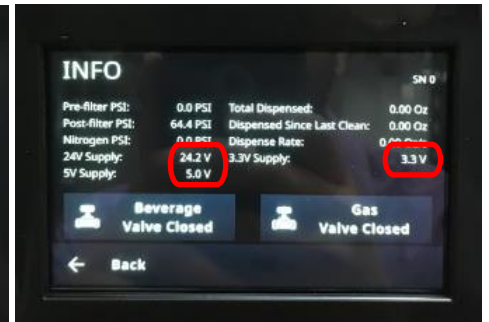

Figure 12: Voltage readings Circled.
- b. Verify reading on touchscreen of “24V, 5V, 3.3V” Supply is within tolerances on. See **Figure 12 and Figure 13**. If all voltages are within tolerance, restart the Fridge (Unplug and plug back in) and check the voltage again. If issue persists, update the software. Refer to **Appendix F: Software Update**.